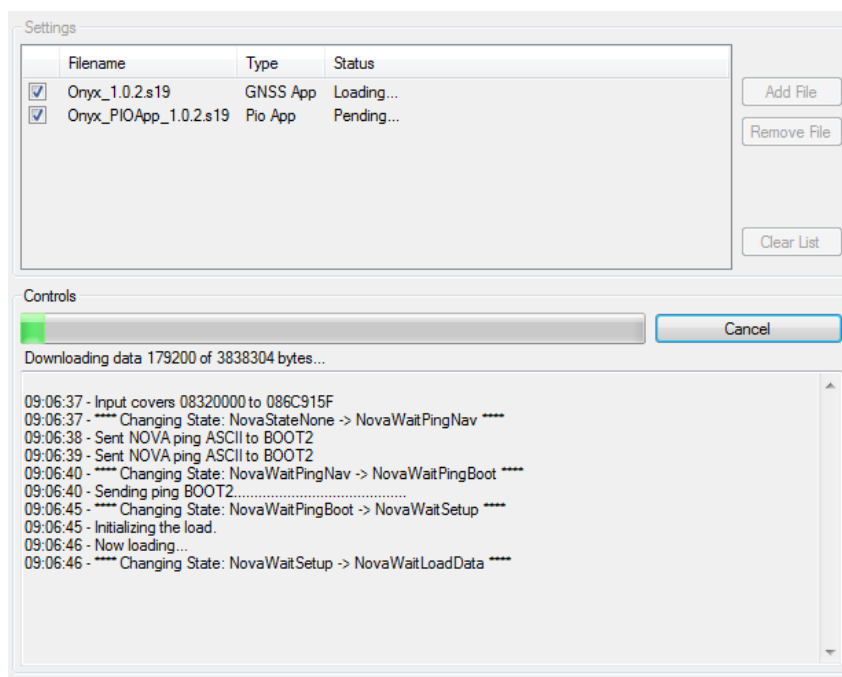

Figure 22: Ready to Downline Load File
6. Update status is provided as the process runs (see Figure 22). At the end of each file upload, there is a quiet period while files are verified, written from temporary memory to permanent memory and the receiver cycles power.